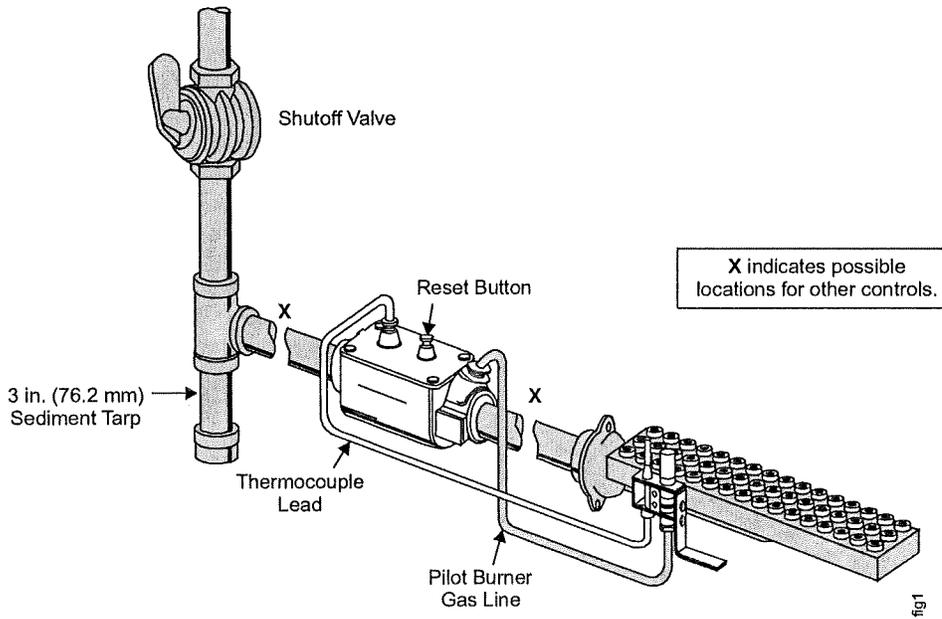

Figure 1: Typical H17 Installation
4. Mount the valve to the pipework. The H17 valve may be mounted in any convenient position. Use an approved pipe joint sealing compound on the male threads before assembly. Remove excess compound after mounting the valve to the pipework. Threads of the pipe and nipples must be smooth and free of tears and burrs. Steam clean all piping to remove foreign substances such as cutting oil or thread chips. A sediment trap should also be installed in accordance with the National Fuel Gas Code (ANSI Z223.1). See Figure 1.